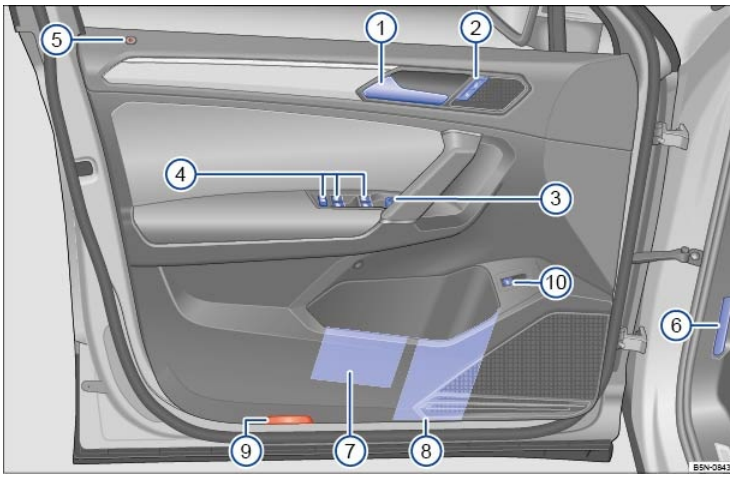

Fig. 4 Overview of the driver door.
**Key to ⇒ Fig. 4 :**
- ① Door handle ⇒ *Doors and power locking system*
- ② Power locking button for locking and unlocking the vehicle - ⇒ *Keyless Access with push-button start*
- ③ Knob for adjusting the outside mirrors ⇒ *Mirrors*:
- ④ Switches for operating the power windows ⇒ *Power windows*:
- ⑤ Indicator light for the power locking system ⇒ *Keyless Access with push-button start*